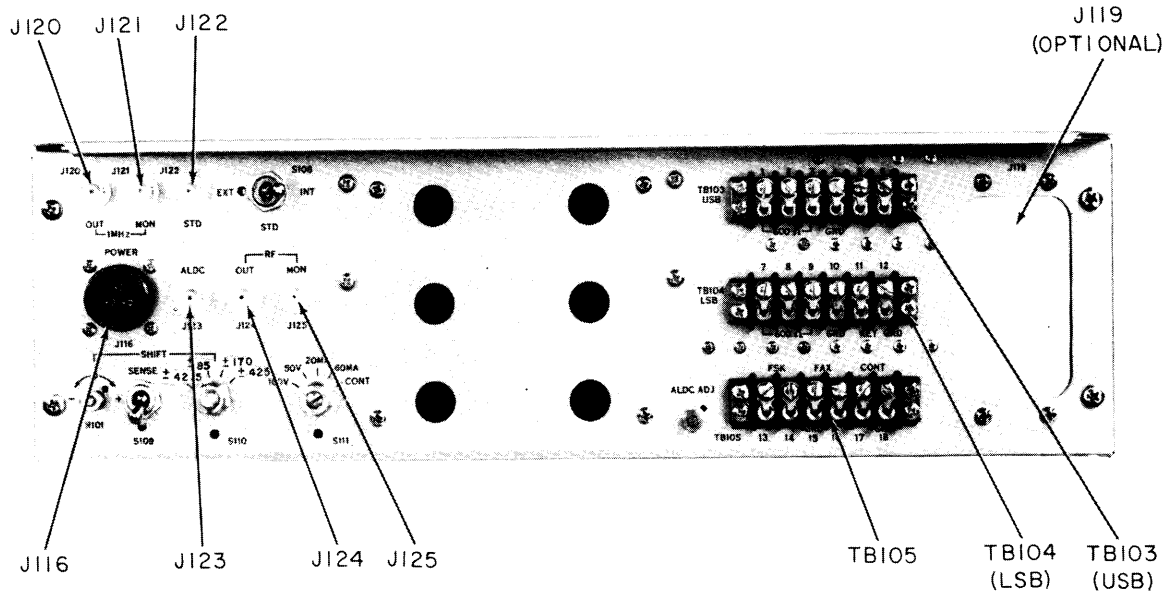
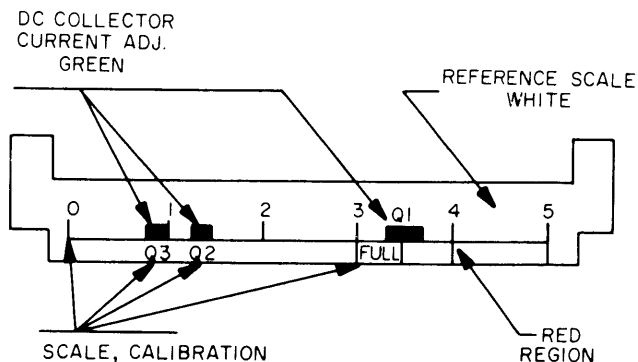

Figure 2-2. Rear Panel Connectors
Figure 2-3. Front Panel Monitor Indicator
All electrical connections between the Exciter and associated equipment are made at the rear of the unit. Figure 2-2 illustrates all rear panel connections, while table 2-1 lists the panel designation and function of each connection.
2-5. INITIAL CHECKOUT PROCEDURE (See figures 2-2 and 2-3.)
- a. Set ON/STANDBY switch (9) to STANDBY position.
- b. Connect source of 115 vac line power to connector J116 (figure 2-2). STANDBY indicator (8) shall illuminate amber.
- c. Position RF OUTPUT control (1) fully counterclockwise.
- d. Using frequency selector switches (14), set output frequency to 29.9999 MHz.
- e. Position CARRIER control (13) fully counterclockwise.
- f. Position MODE switch (12) to ISB.
- g. Position EXCITER Switch (11) to ON.
- h. Set MIKE/LINE controls (4) and (6) to 0.
- i. Position METER switch (2) to Q1.
- k. Position ON/STANDBY switch (9) to ON. STANDBY indicator (8) shall extinguish and POWER indicator (10) shall illuminate red.
- l. Verify the MONITOR meter (5) is in the green region marked Q1. (See figure 2-3.)
- m. Set METER switch (2) to Q2. MONITOR meter (5) shall indicate in the green region marked Q2. (See figure 2-3.)
- n. Set METER switch (2) to Q3. MONITOR meter (5) shall indicate in the green region marked Q3. (See figure 2-3.)
- o. Set METER switch (2) to RF; MONITOR meter (5) shall indicate zero with RF OUTPUT control (1) fully counterclockwise.
- p. Connect a VTVM (Hewlett-Packard HP411A, or equivalent) to RF OUT jack J124 (figure 2-2) across a 47-ohm 2 watt noninductive load resistor.
- q. Adjust RF OUTPUT control (1) for a minimum indication of 3.5 volts on VTVM.
r. Set METER switch (2) to USB and adjust USB MIKE/LINE control (6) for an indication of 2/5 full scale on MONITOR meter (5).
s. Set METER switch (2) to LSB and adjust LSB MIKE/LINE control (4) for an indication of 2/5 full scale on MONITOR meter (5).
t. Set METER switch (2) to CARR position. MONITOR meter (5) shall indicate zero.
u. Rotate CARRIER control (13) slowly clockwise; MONITOR meter (5) indication shall increase to FULL when CARRIER control (13) is fully clockwise.
- a. Connect a source of 115 vac, single-phase power to connector J116 (figure 2-2). Observe that STANDBY indicator (8) illuminates amber.
- b. Make necessary interface connection on rear panel jack (figure 2-2).